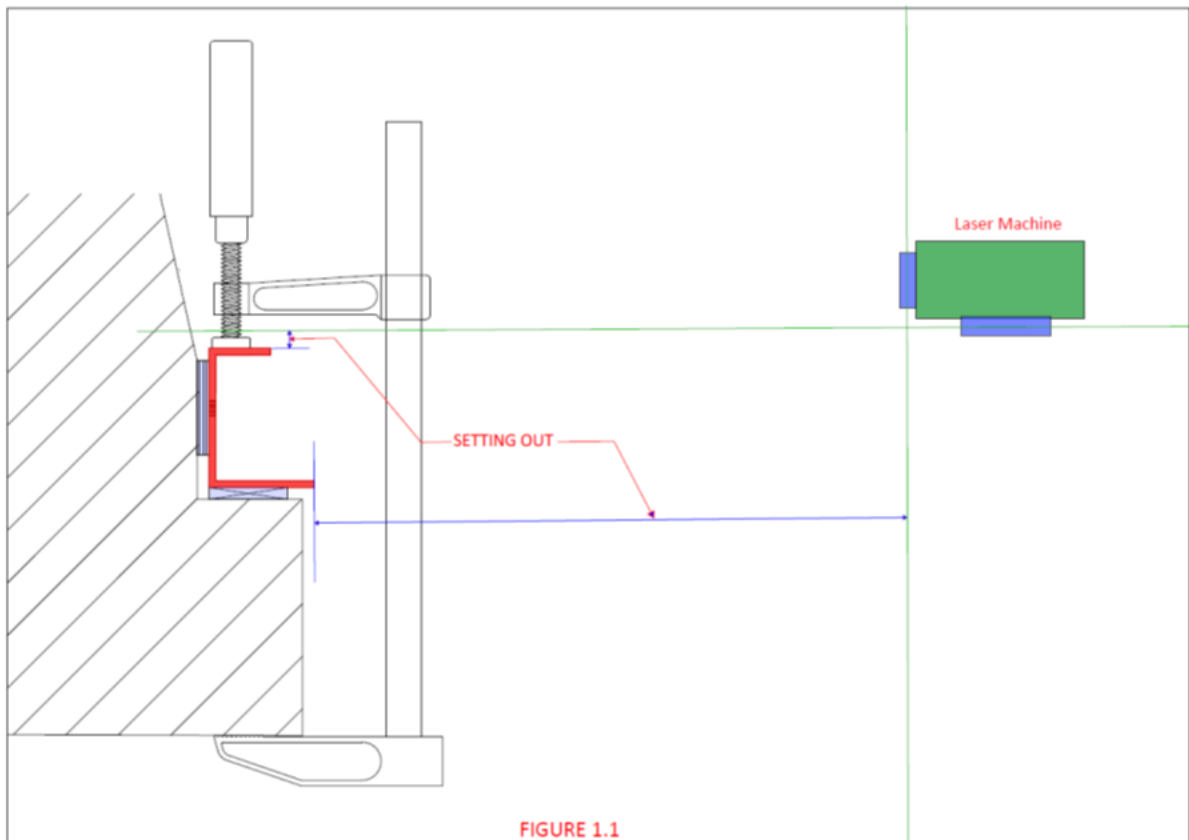

FIGURE 1.1
69. Once sub-frame is lined and leveled, secure the sub-frame using 4 nos. F-clamp as shown in figures 1.1 & 1.2 below. F-Clamps location in figure 1.